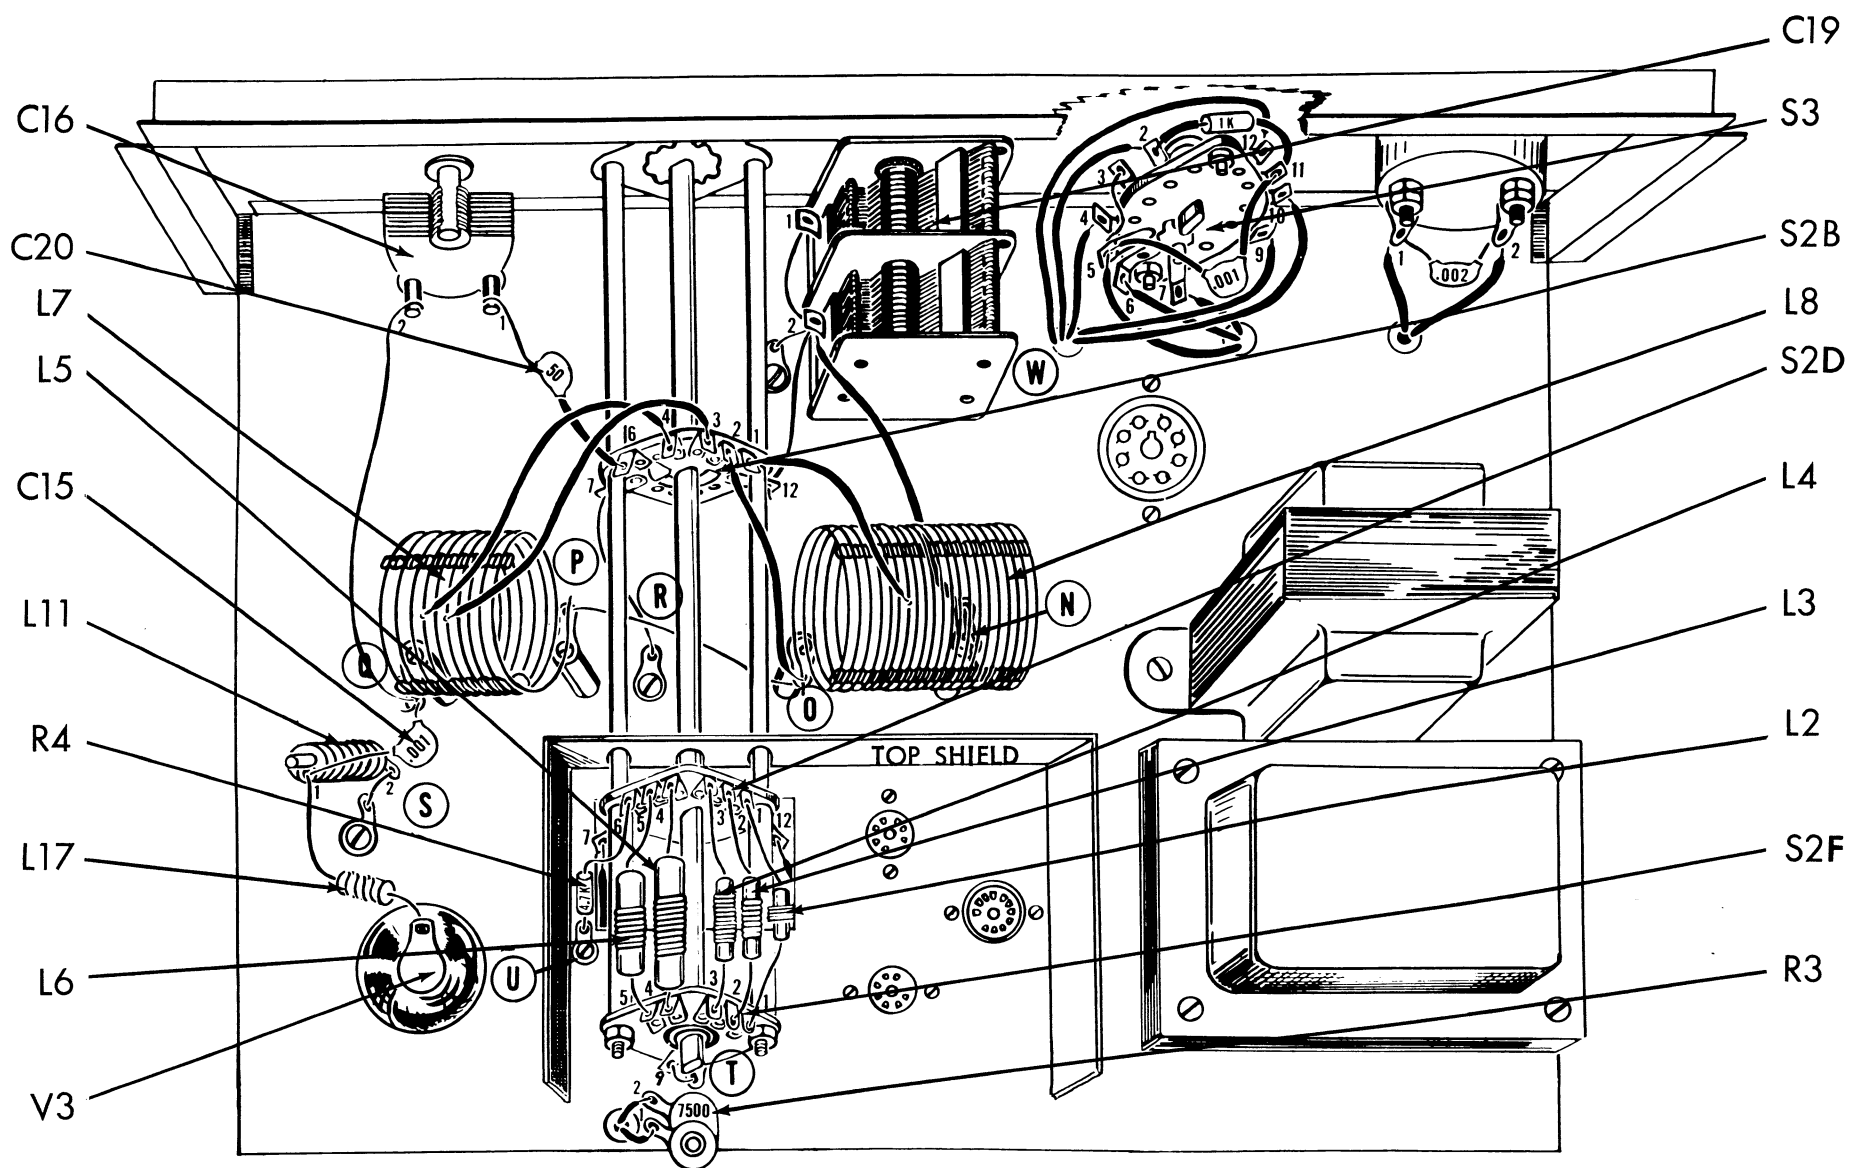

Fig. 9
1. (✓) Fig. 9. Connect a 2 1/2" piece of the heavy bare wire from C19-2 (S4) to S2B-12 (S1).
2. () Fig. 9. Connect a 3" piece of heavy bare wire covered with a 2 1/2" piece of spaghetti from S2B-7 (S1) to ground lug "R" (S1) under S2.
3. (✓) Fig. 9. The two large coils, L7 and L8, are to be mounted as follows. Note that L7 has less turns than L8. L7 has 2 taps while L8 has one tap. The chassis is oriented with the panel away from the builder. Mount L7 (the coil with less turns), as shown. The two taps are to be close to the left edge of the chassis, away from S2. The first tap is 4 1/2 turns from the right. The ends of the coil are to be soldered to the two #8 ground lugs which are mounted on the two ceramic standoff insulators at the left of S2. Bend the ears on the lugs around the ends of the coil wire. Solder the ends of the coil wire and all the other leads going to lugs "P" & "Q". Clip off any excess length of coil wire, extending beyond the soldered lugs.
4. (✓) Fig. 9. Cut the lead coming from the center of L8 to 2 3/4". Cover the lead with a 2 1/2" piece of spaghetti. Connect the lead to S2B-1 (S1).
5. (✓) Fig. 9. Cut the two leads connected near the center of L7 to 3". Cover each lead with a 2 3/4" piece of spaghetti. Connect the lead from the tap nearest the switch to S2B-3 (S1). Connect the other lead to S2B-4 (S1).
6. (✓) Fig. 9. Cut both leads on a 50 mmf disc capacitor, C20, to 1 1/4". Cover one lead with a 1" piece of spaghetti and connect to S2B-6 (S1). Connect the other lead to C16-1 (S1).
7. (✓) Fig. 9. Connect a 3 1/4" piece of heavy bare wire from C16-2 (S1) to lug "Q" (C).
8. (✓) Fig. 9. Cut both leads on a .001 mfd - 2000V (1K or 1000 mmf) disc capacitor, C15, to 1". Connect from L11-1 (C) to Lug "Q" (S3).
9. (✓) Fig. 9. Connect a 3/4" piece of bare wire from L11-2 (S1) to insulated lug "S" (S1).
10. (✓) Fig. 9. Cut one end of the parasitic suppressor choke, L17, to 3/4". This is a 47Ω (yellow, violet, black) resistor with four turn of wire. Connect this end to L11-1 (S2).
11. (✓) Fig. 9. Cut the other end of the choke L17 to 1 1/4". Push it through the rear hole in the insulation of the tube cap. Solder this lead to the cap.
12. (✓) Fig. 9. From hole "W", connect the black lead to S3A-9 (S1).
13. (✓) Fig. 9. From hole "W", connect the red-yellow lead to S3A-2 (S2).
14. (✓) Fig. 9. One end of a heavy bare wire covered with spaghetti was previously connected to C12-3 and pushed through the rectangular hole. Connect the other end of this wire to S2D-12 (S1).
15. (✓) Fig. 9. Connect the remaining heavy bare wire covered with spaghetti coming through this same rectangular hole to S2D-7 (S1).
16. (✓) Fig. 9. Connect a 1" piece of heavy bare wire from S2F-9 (S1) to insulated lug "T" (S1).
17. (✓) Fig. 9. Cut both leads on a 4.7KΩ (yellow, violet, red) resistor, R4, to 1 1/4". Connect from S2D-6 (S1) to ground lug "U" (S1). Cover lead to S2D-6 with 1" spaghetti.
18. () Fig. 9. In one bag included in the kit there are five RF coils, L2, L3, L4, L5 and L6. The coil on the smallest form with the red dot is L2. The coils on the largest coil form with stock number 35031 stamped on the body is L6. All the coils range from the smallest to the largest in that order. For example, L6 is larger than L5, which has stock #35030 stamped on the body. L5 is larger than L4, etc. L3 with the orange dot and L4 with the green dot are on the same size coil form. However, L3 uses a finer (thinner) wire than L4. Cut all leads to 3/4" except L6. Connect L2 from S2D-1 (S1) to S2F-1 (S1). Connect L3 from S2D-2 (S1) to S2F-2 (S1). Connect L4 from S2D-3 (S1) to S2F-3 (S1). Connect L5 from S2D-4 (S1) to S2F-4 (S1). Cut leads on L6 to 1/2" and connect L6 from S2D-5 (S1) to S2F-5 (S1). Align all coils so that they are parallel to each other and are spaced as far apart as practicable.
19. (✓) Fig. 9. Mount the top shield as shown in Figure 1, by sliding the slits in the shield over the switch rods. Use four #6 lockwashers and four #6-32 hex nuts.
20. (✓) Fig. 9. Solder one of the twist tabs of the bottom shield to the top of the chassis.